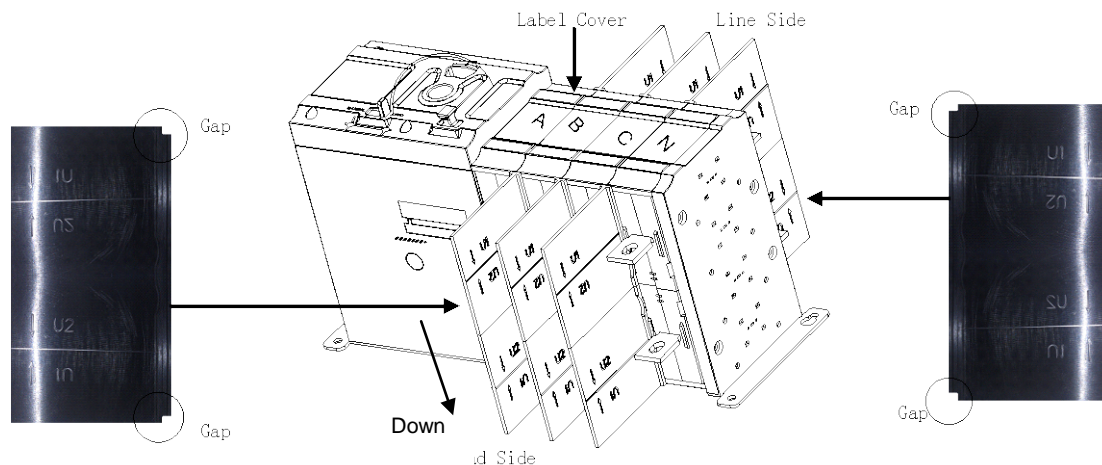

Figure 2-4 Pole Partition Installation
- 2) Remove all label covers on the arc chamber: A/B/C/N. Insert the first pole partition between two arc chambers with the gap facing DOWN and insert another pole partition with the gap facing upward. Repeat for each slot between each pole. When finished, snap each label cover back into its **original position**. Make sure that the correct label (LINE versus LOAD) is showing on the correct side. See Figure 2-4 for more details.